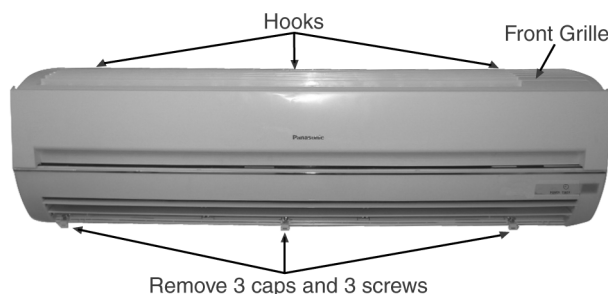

Fig. 1
- Remove the 3 caps and 3 screws at the bottom of the Front Grille. (Fig. 1)
- Remove the Front Grille by releasing the 3 hooks at the top of the Front Grille. (Fig. 1)